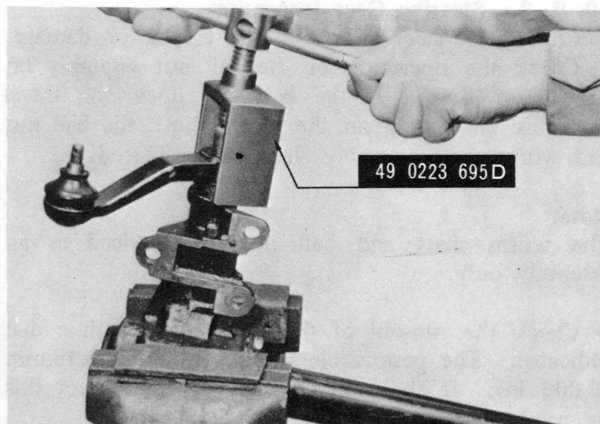

Fig. 10-5 Removing pitman arm
2. Remove the nut attaching the pitman arm and remove the pitman arm with the **pitman arm puller** (Part No. 49 0223 695D), as shown in Fig. 10-5.